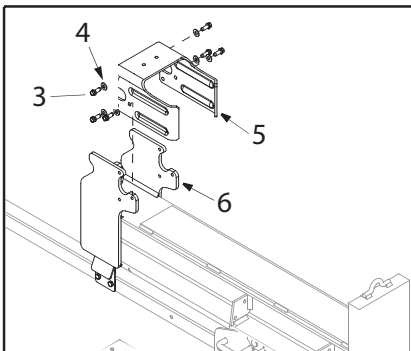
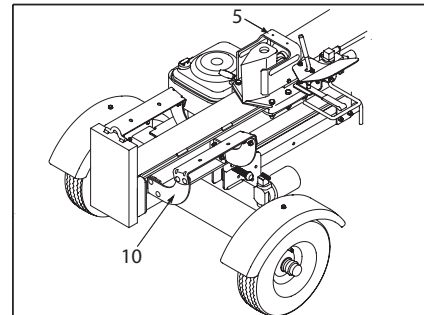

Fig.7
Fig.9b
- Disconnect the stripper (5) – by removing the six bolts (3) and the washers (4) from the mount block (6) welded to the column. Fig. 7
- Re-attach the stripper (5) above the wedge module and screw to the welded-on mount block with the previously removed small parts (see Fig. 7). Fig. 9b
- Re-attach support (10) to the control valve side of the splitting column, aligning the ends of the support with the column flanges. See Fig. 9b.